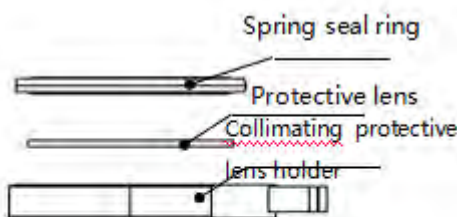

**Figure 6.3 — Take out collimating protective lens**
- Use a 2.5mm inner hexagon spanner to unscrew the screw of collimating protective lens (as shown in figure 6.3);